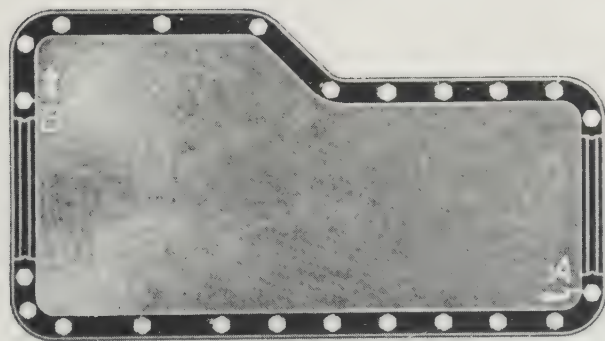

Fig. 1.25. Oil pan bolts - tightening order (Sec. 50)
- 5 Tighten the oil pan bolts in a progressive manner, to a final torque wrench setting as specified, in the order shown in Fig. 1.25.